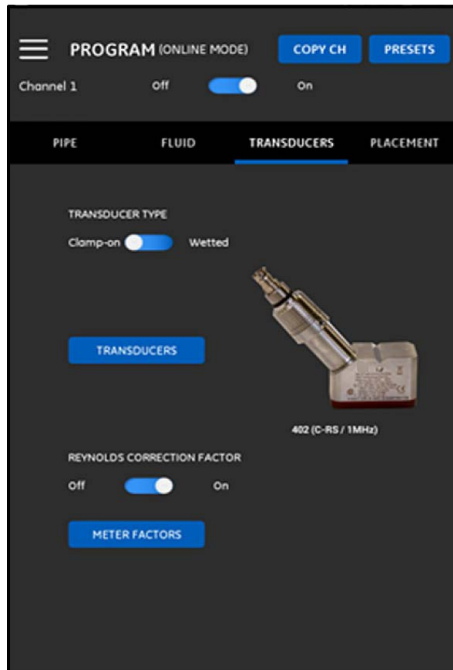

Figure 87: The TRANSDUCERS Menu
An example of this menu is shown in Figure 87 below. See the following sub-sections for the options available in programming the transducers.
To program your transducer parameters, refer to Figure 87 on page 73 and complete the following steps:
2. If you select standard transducer from the drop down, you will need to enter only the WEDGE TEMPERATURE (see Figure 87). But if you select other as your transducer model, few additional parameters will appear on the screen (see Figure 88) and you must edit this data with the correct specific information.
The REYNOLDS CORRECTION FACTOR can be set to either On or Off (see Figure 87 on page 73). This factor corrects the fluid velocity measured across a diametrical path so that it more accurately represents the average fluid velocity across the entire cross-sectional area of the pipe. The REYNOLDS CORRECTION FACTOR should be turned On for all clamp-on measurements.
To program the METER FACTOR, refer to Figure 87 on page 73 and complete the following steps: